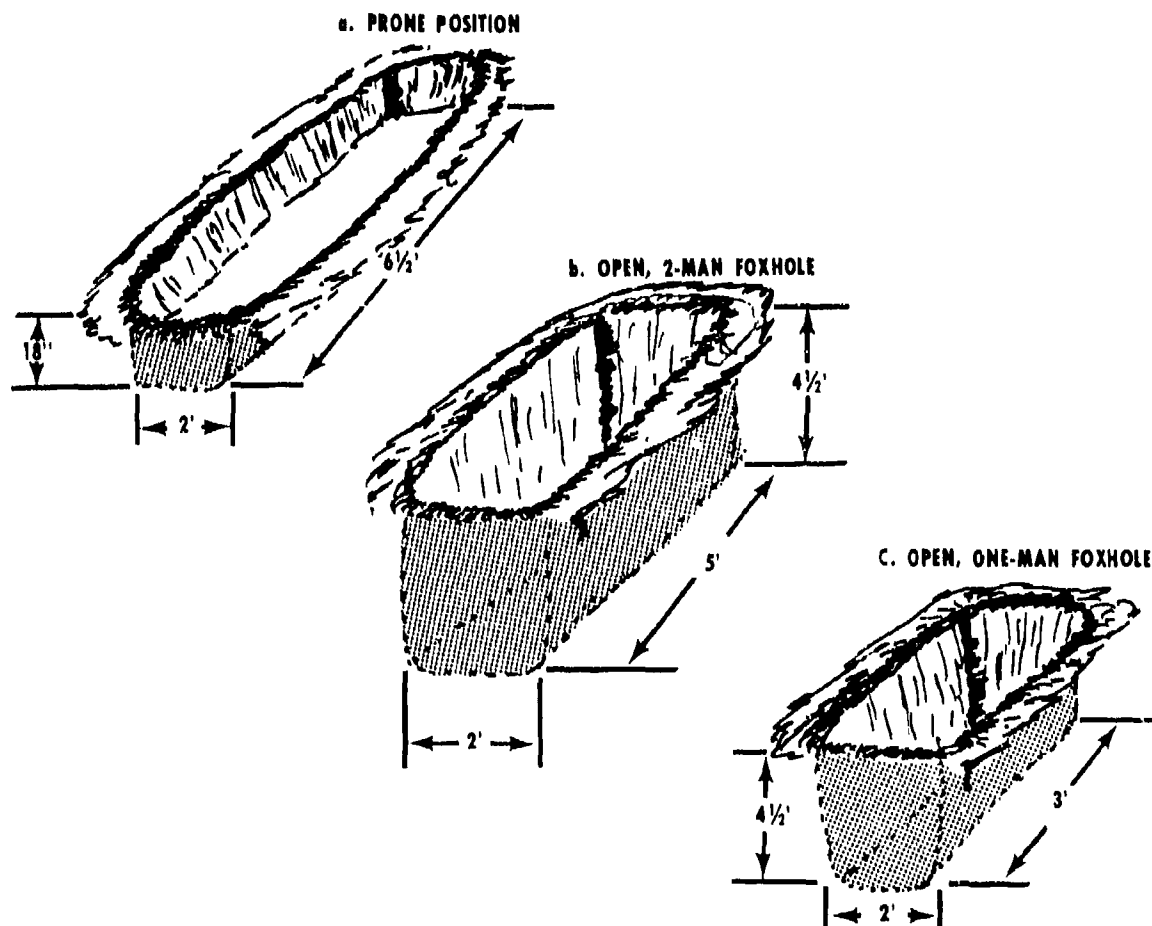

FIGURE 4. BASIC TYPES OF FIGHTING POSITIONS THAT PROVIDE GOOD PROTECTION.
--"Earth is a good shielding material." A properly constructed fighting position offers excellent protection against both initial and residual radiation. Examples of basic fighting position types that provide good protection are shown in figure 4.